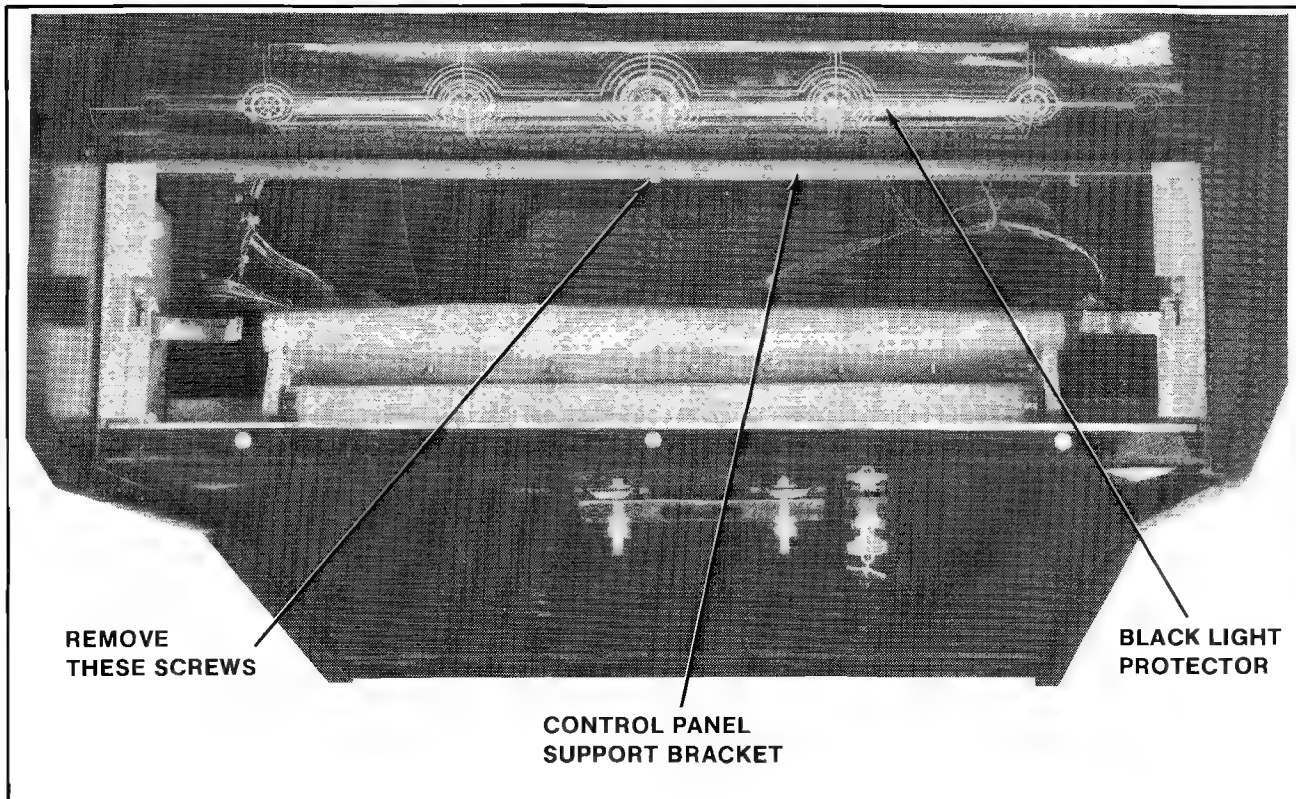

Figure 3-17 Servicing Control Panel Black Light — Upright
2. Remove the control panel as described previously. This exposes the bottom row of screws which secure the control panel support bracket and the black light protector in place. See Figure 3-17.